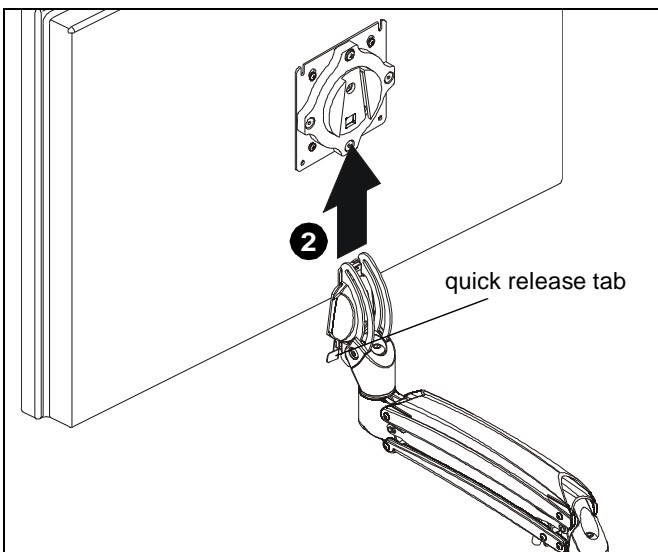

Figure 10
WARNING: Only remove display from mount when the display can be lifted up from the mount! DO NOT remove display unless the display is in the upright position! (See Figure 10)
2. Remove faceplate from mount by pulling quick release lever and sliding faceplate off mount. (See Figure 10)